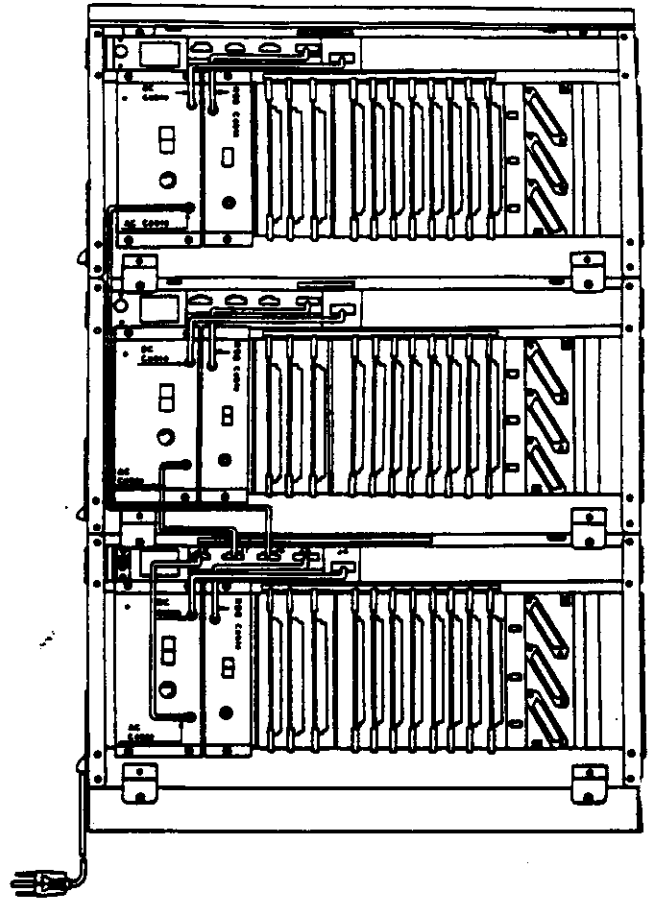

Figure 250-1 Connection of PSU Cable
- B. Install a PSE-AD-1 PSU into the PSU slot in each CCU, as shown in Figure 250-1, making sure that its power switch is in the OFF position.